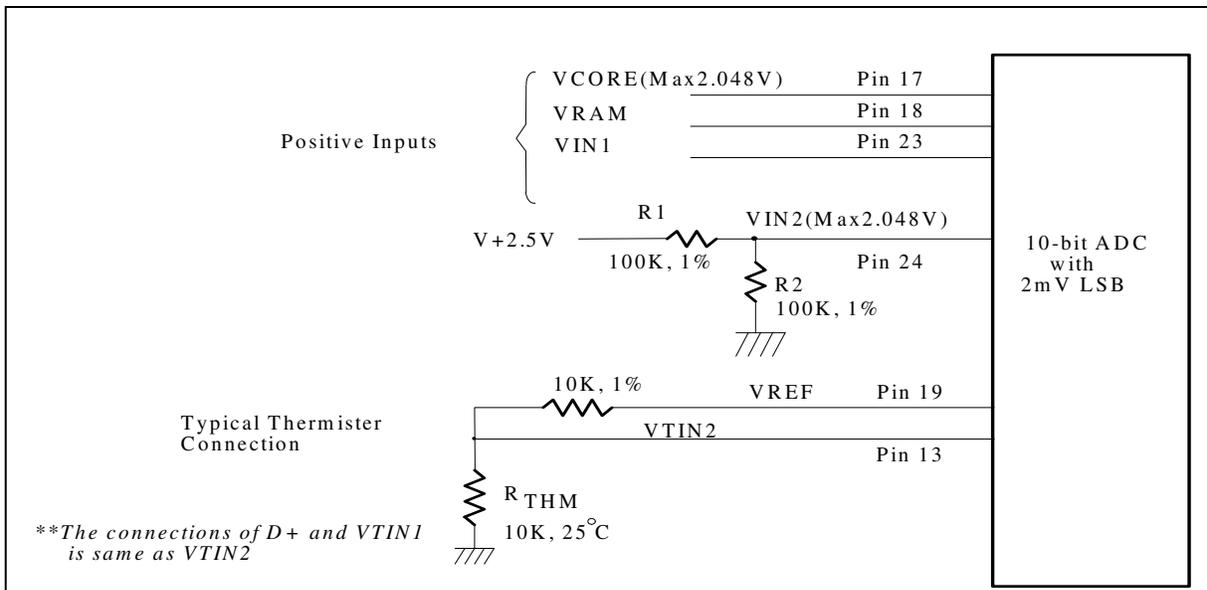

Figure 3
The maximum input voltage of the analog pin is 2.048V because the 8-bit ADC has the 2mv LSB. Actually, the application of the voltage monitoring would most often be connected to power suppliers. The input voltage lower than 2.048V could directly connect to the analog inputs. The inputs voltage higher than 2.048V should be reduced by external resistors so as to meet the input range. This is shown in Figure 3.
W83L786R/G can connect two thermistors and one thermal diode sensor to measure three different environment temperatures. The specification of thermistor should be considered to (1)  $\beta$  value is 3435 K, and (2) resistor value is 10K ohms at 25°C. In the Figure 3, the themistor is connected by a serial resistor with 10K Ohms, and then connect to  $V_{REF}$  (pin 19).